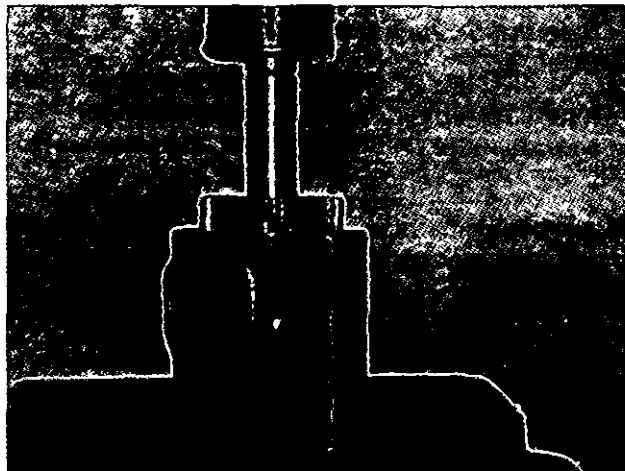

Fig. 3-6, (F5285). Remove the gear from the welded weight carrier with ST-1231.
3. Remove the gear if it is damaged, Fig. 3-6. The chamfered side of the gear goes toward the carrier weight. Press the gear until it is against the carrier.